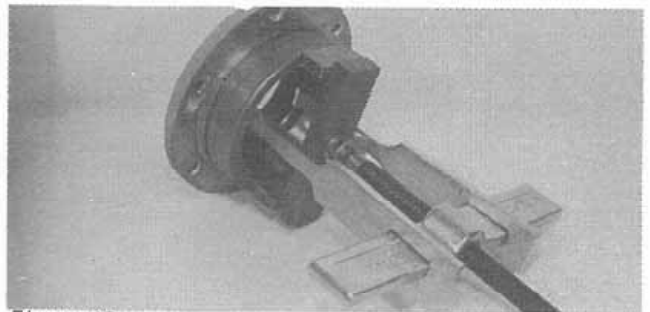

Figure 15:
13. To remove the bearing cups from the bearing caps, use a puller set up as shown (Fig. 15) or a welder to run a bead in the inside diameter of the bearing cup. This weld will shrink it enough to allow it to drop out.